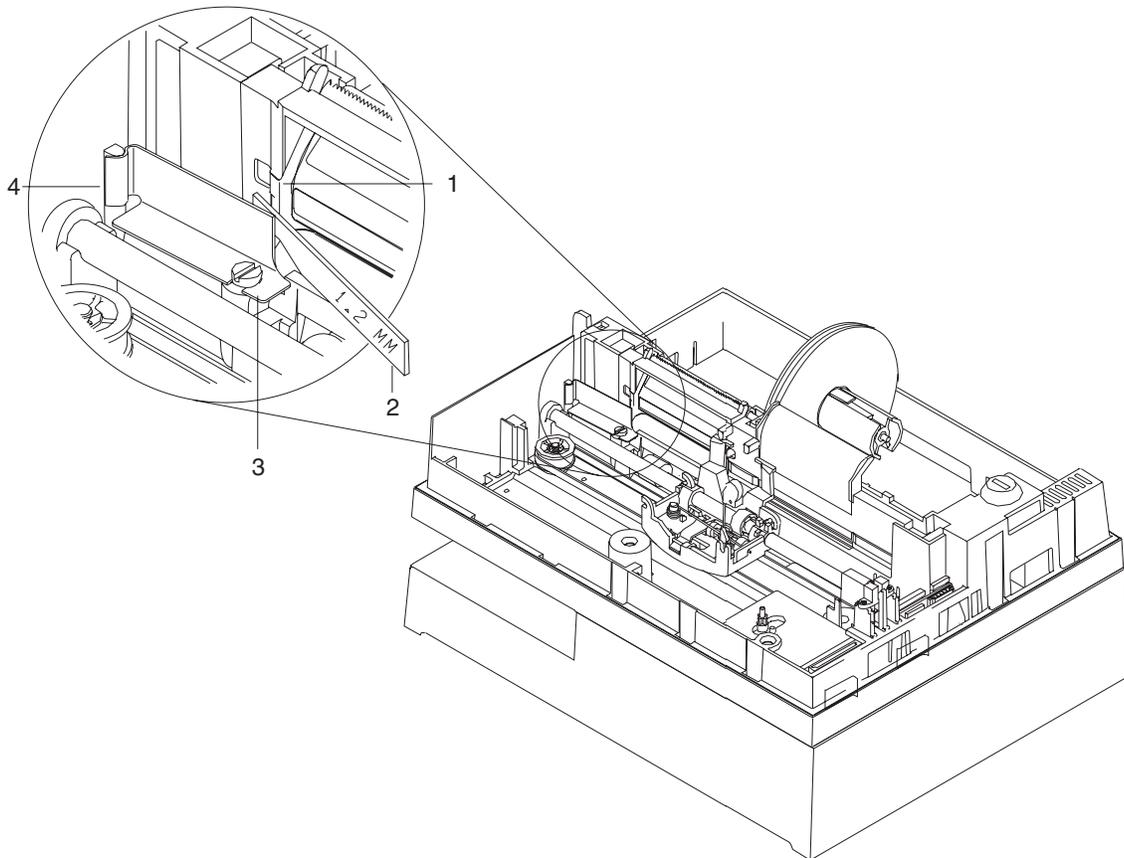

Figure 5-6. Adjusting the Print Head Cam. For illustration, the top cover has been removed. Removal of the cover is not necessary for this procedure.
- 2 Loosen the screw (3).
- 3 Ensure that the end of the cam (4) is installed over the side frame rib.
- 4 Insert a 1.2 mm gauge (2) as shown in Figure 5-6.
- 5 Hold the gauge against the platen (1) and move the cam until it touches the gauge.